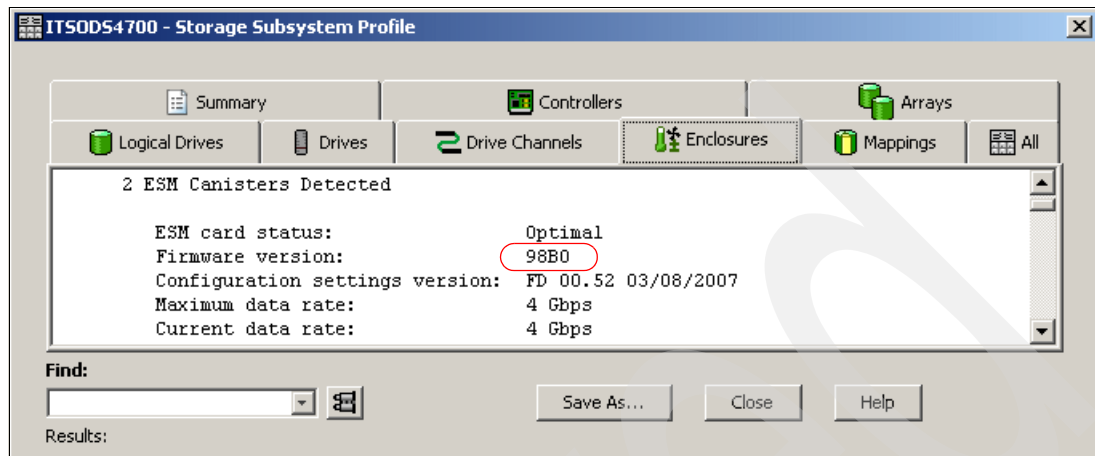

Figure 9-6 Viewing ESM firmware
- Click the **Enclosures** tab to see the ESM current firmware level. As shown in Figure 9-6, you must use the scroll bar to show all of the ESM firmware (two per enclosure), as circled in red in Figure 9-6.